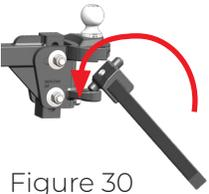

Figure 30
4. Insert the spring arms into the sockets of the hitch head and ensure that the keeper tab is secure. (Figure 30)